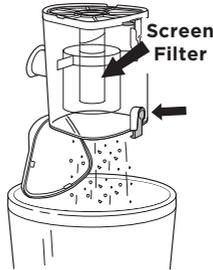

Fig. 19
- 3 If needed, turn the dust cup upside down over the trash receptacle and press the top door release button. **(Fig. 19)** Tap gently to remove contents.